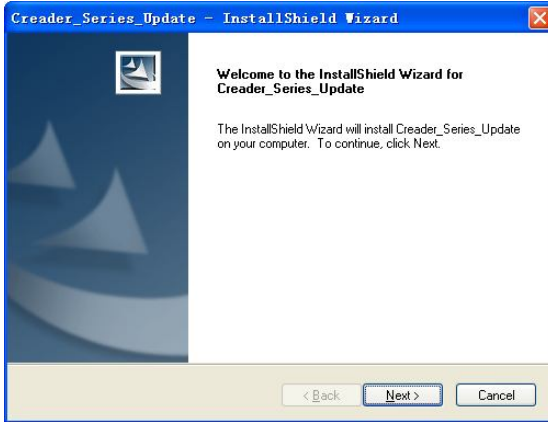

Figure 7-2
b) Click [Next] in figure 7-2 to go to the next step.